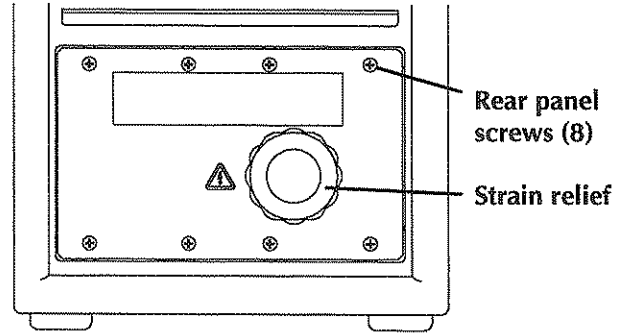

Figure 5 - Hand Torch Power Supply Rear Panel
10. Remove the hand torch power supply rear panel and disconnect the power cord. See Figs. 5 and 6.